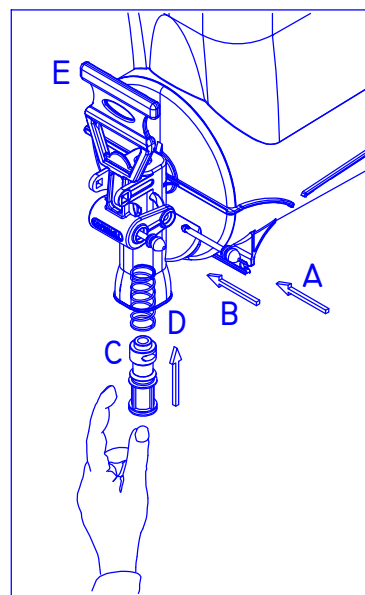

Fig. 24
- 2) Lubricate the tap valve C with the vaseline supplied with the machine and push it into the product supply hole along with the spring D then insert the rotation pin A. (Fig . 24)